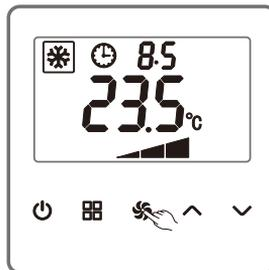

Figure 4
- (1) The unit is timed to start or stop, ranging from 0.5 to 24 hours.
- (2) As shown in the Figure 4, after starting the unit, to keep pressing SPEED (SPEED) for about 5 seconds (press keeping hereinafter lasts 5 seconds) can disable or enable the timer. When enabling the timer, the symbol CLOCK flashes. A press of \wedge (UP) or \vee (DOWN) increases or reduces 0.5 hour in the amount of time. A press of SPEED (SPEED) ensures saving the timer setting. The symbol CLOCK stops flashing and continue to be visible, which means the timer has been working and the countdown is displayed.
- (3) After a stoppage of the unit, the unit is specified a time to start in the way to stop. The countdown will be displayed.